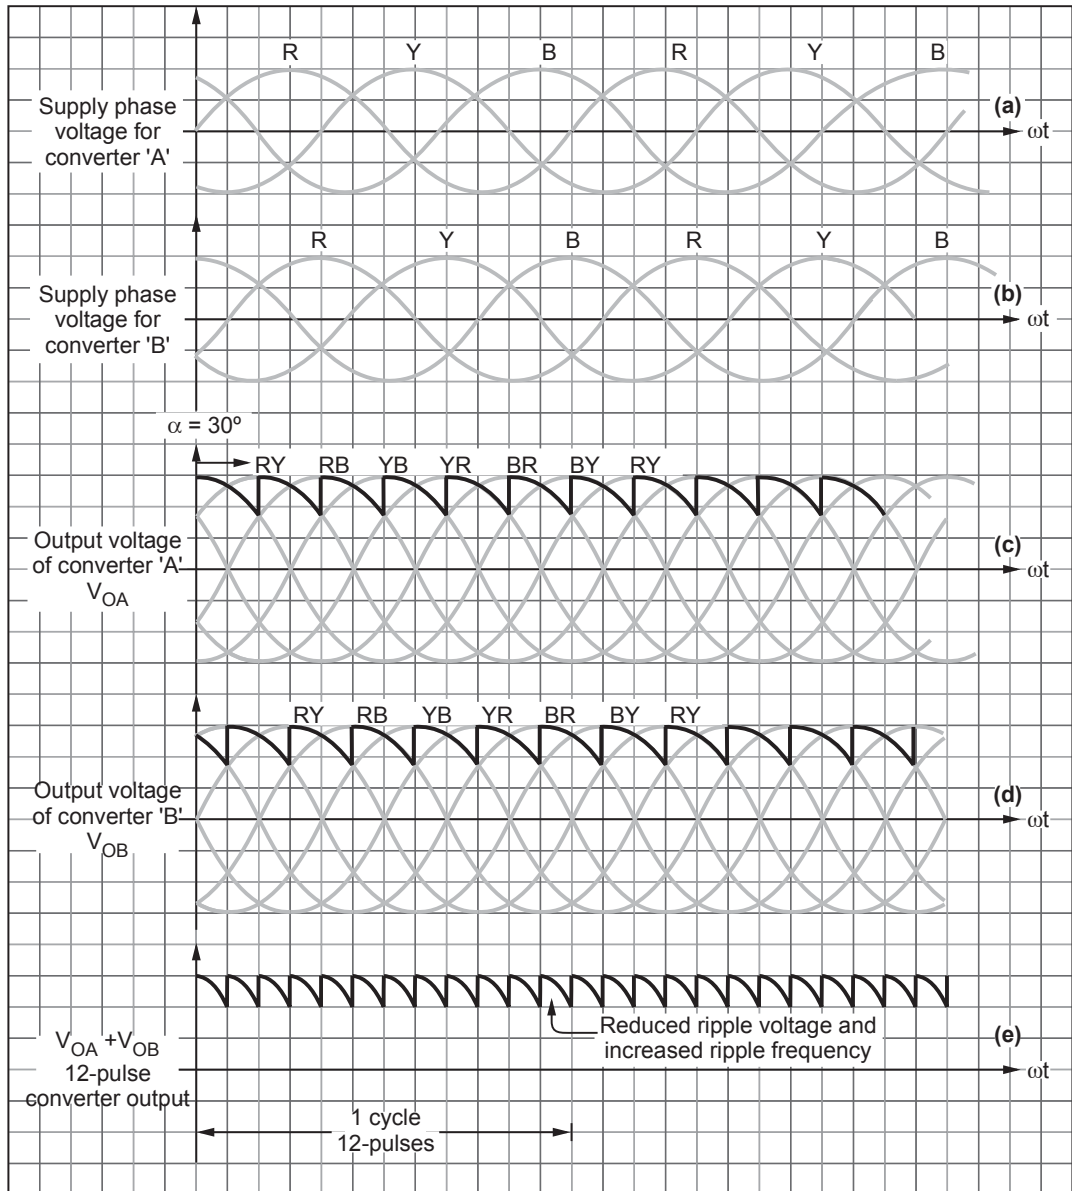

Fig. 14 Waveforms of 12-pulse converter
- Fig. 14 shows the waveforms of above 12-pulse converter. There is phase shift of 30° in the input supply voltages of converter 'B'. This is due to star-delta transformer connection for converter 'B'.
- Fig. 14 (c) shows the output of converter-A. Observe that it is 6-pulse output. The ripple frequency is $6 \times 50 = 300$ Hz. Fig. 14 (d) shows the output of converter-B. It is the 6-pulse output. The ripple frequency is $6 \times 50 = 300$ Hz.
- Fig. 14 (e) shows the output of 12-pulse converter. It is obtained by adding the waveforms of Fig. 14(c) and (d). Observe that there are 12-pulses in the output-waveform. The ripple frequency is $12 \times 50 = 600$ Hz. The ripple voltage is also reduced.